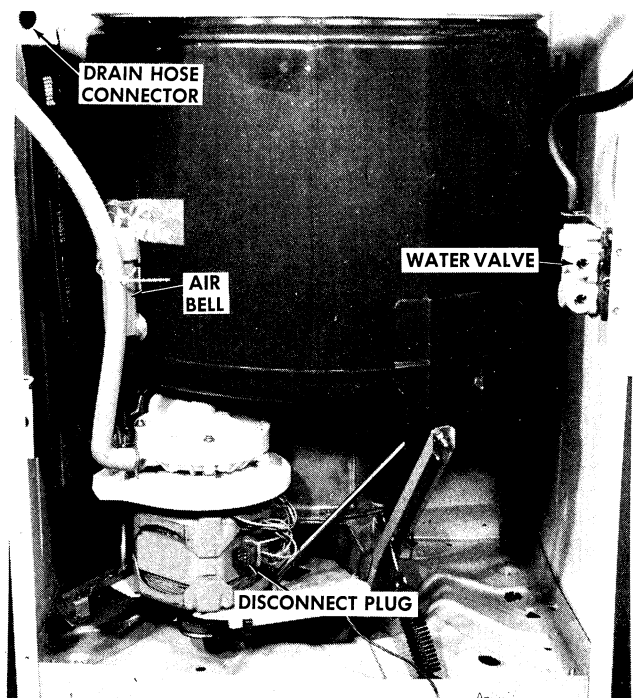

Figure 80
- b. Remove pump drain hose connector, *Figure 80*.